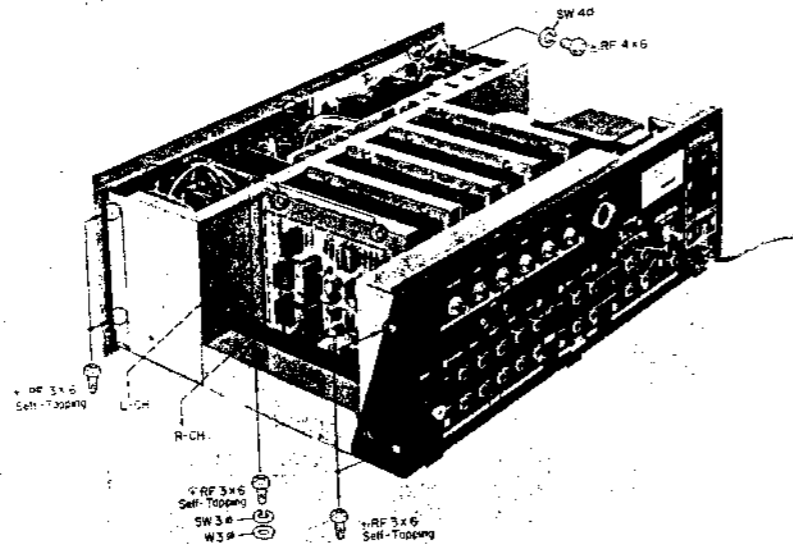

Fig. 2-2. Removal of Front-Panel Ass'y
- b. Remove the two self-tapping screws (+RF3 ϕ × 6) on each side of the chassis. See Fig. 2-2.
- c. Remove the three Phillips-Head screws (+RF4φ × 6) behind the top edge of the Front Panel Assembly. See Fig. 2-2.
- b. Remove the two self-tapping screws (+RF3φ × 6) on each side of the chassis. See Fig. 2-2.